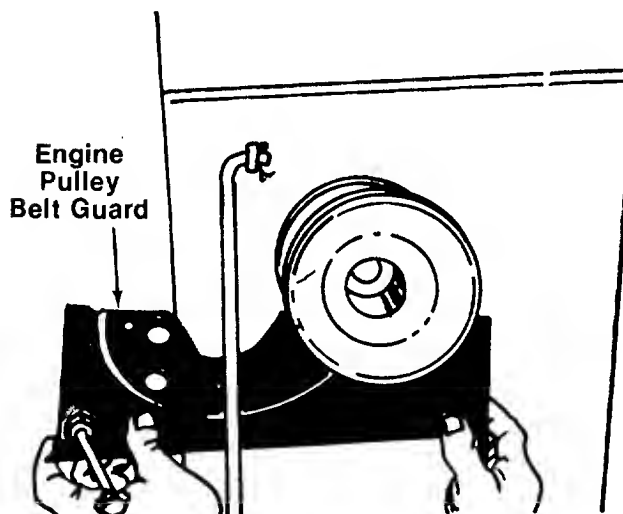

FIGURE 25.
6. Remove the engine pulley belt guard by slipping it back and to the right. See figure 25.